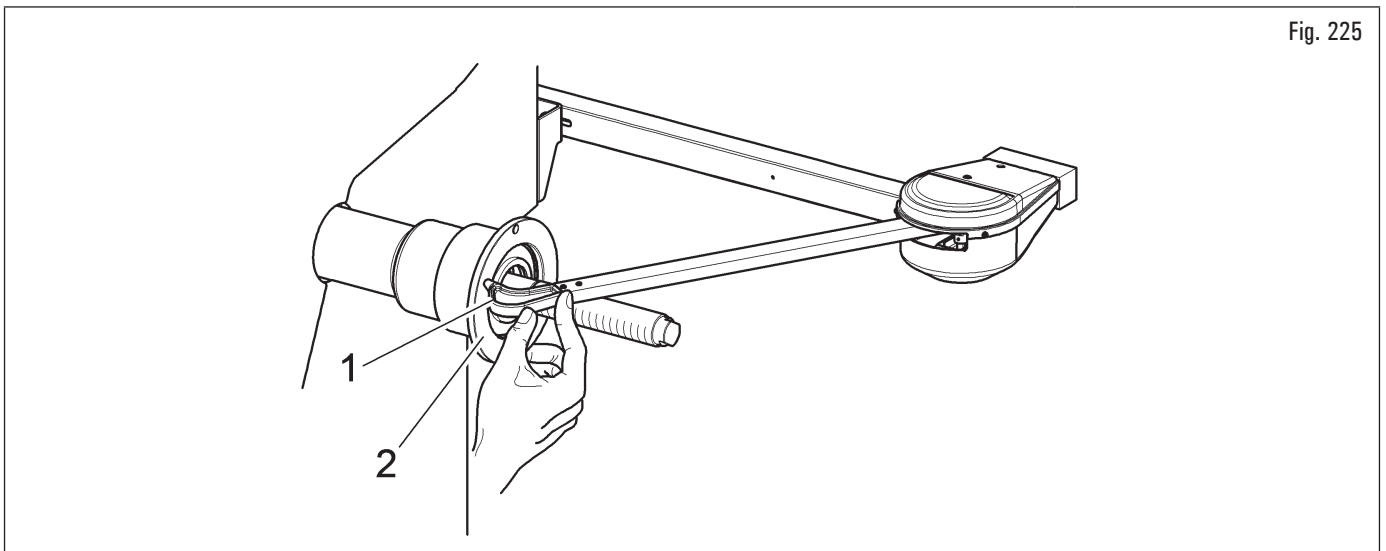

Fig. 225
Move the tip of the width measuring device (Fig. 225 ref. 1) in line with the outer surface of the flange (Fig. 225 ref. 2).